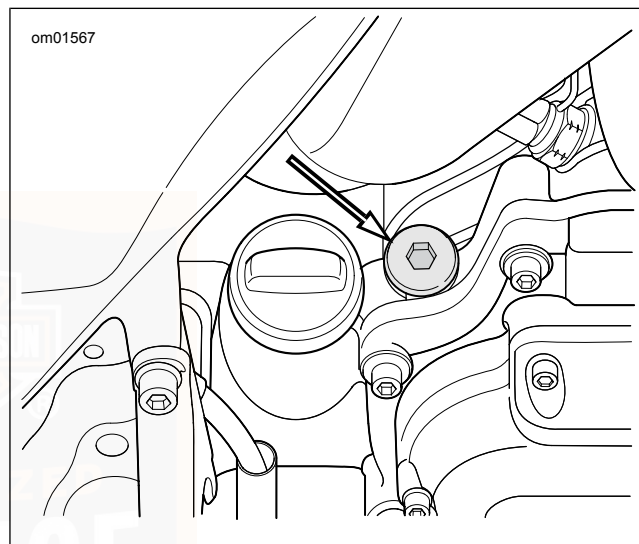

Figure 66. Transmission Filler Plug/Dipstick Location
2. See Figure 66. Remove transmission filler plug/dipstick. Wipe dipstick clean.